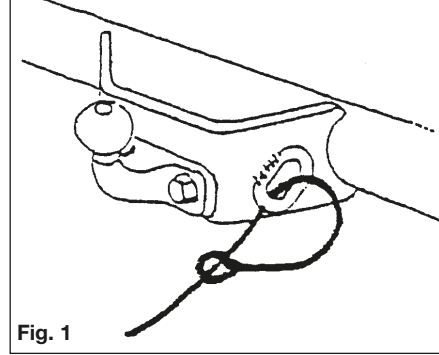

Fig. 1
Under normal circumstances the inner ring and the outer body will be locked in one position (see fig 1).
- Pass the cable through the attachment point and clip it back on itself (figure 1).